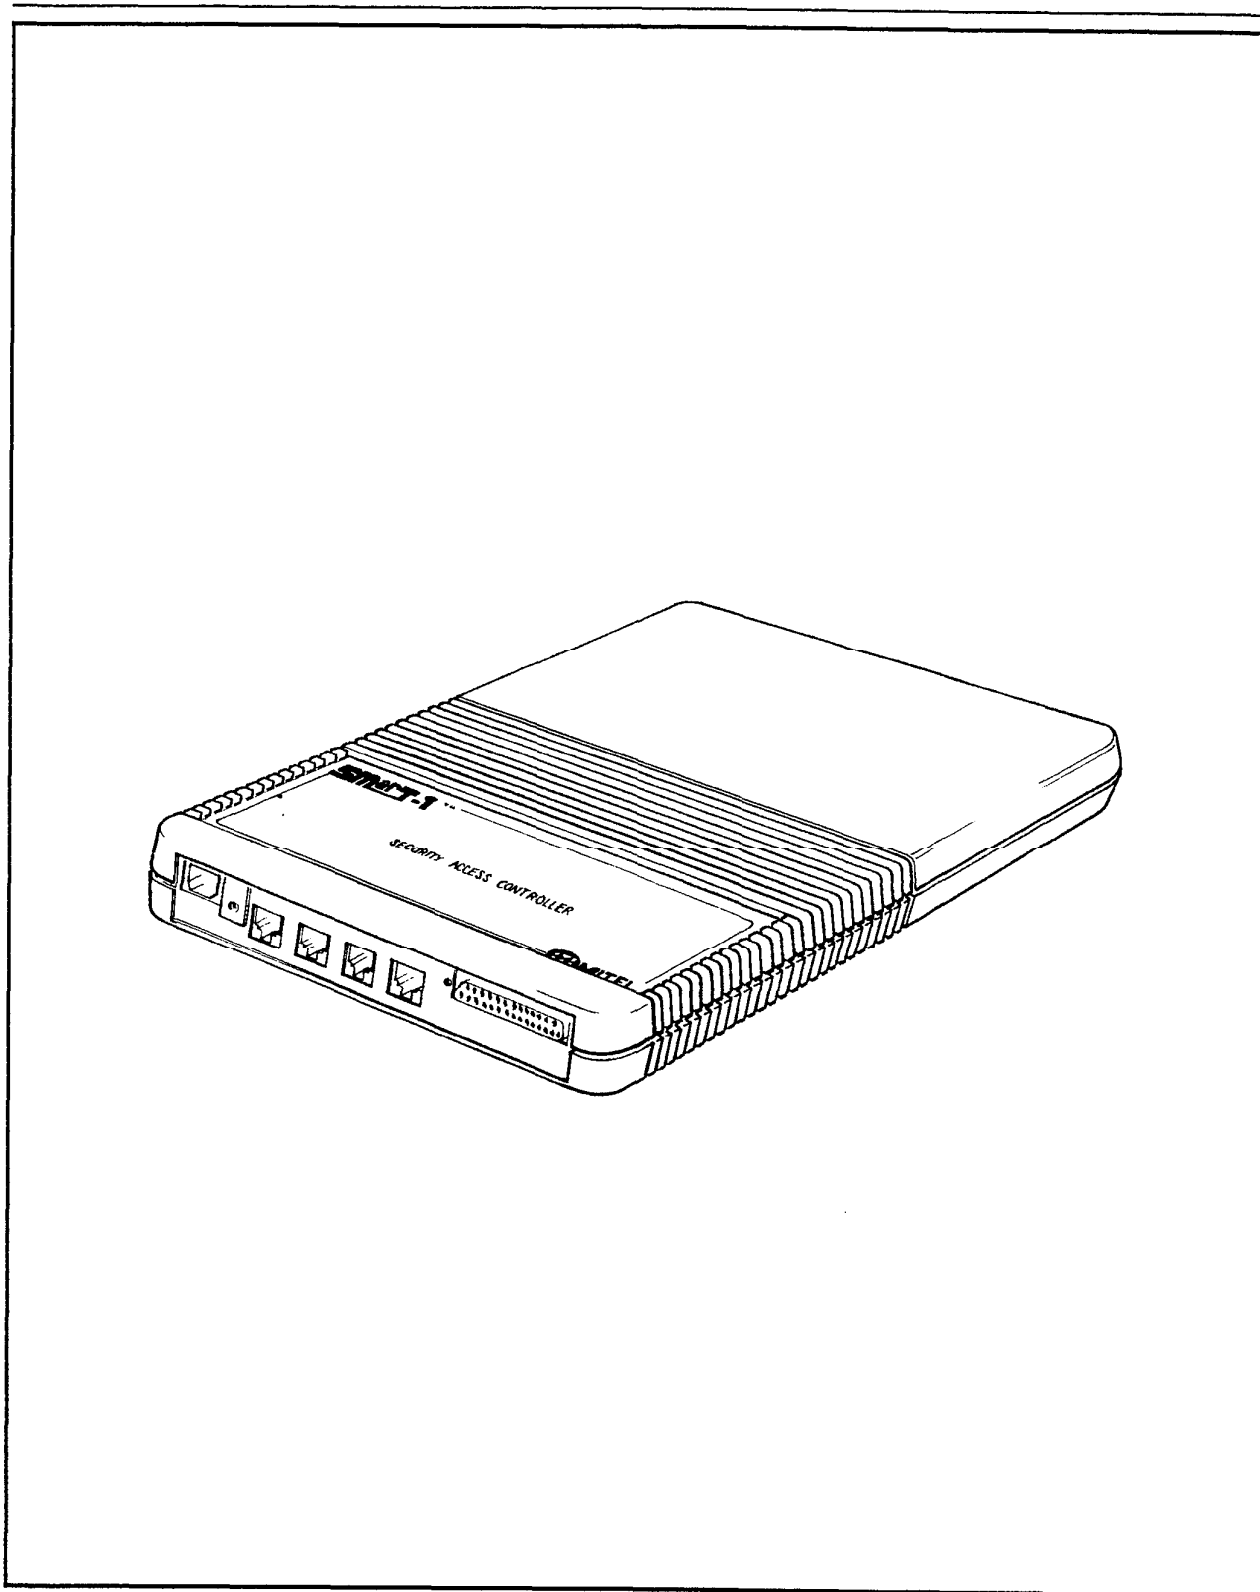

Figure 2-1, SMarT-1™ Security Access Controller
**2.03** The Controller (see Figure 2-1) prevents unauthorized access to a data base that is typically gained through "hackers" utilizing dial-up telephone circuits and randomly searching for authorization codes. The SAC security features include the disconnection of invalid access attempts and callback technology to protect the integrity of a network.